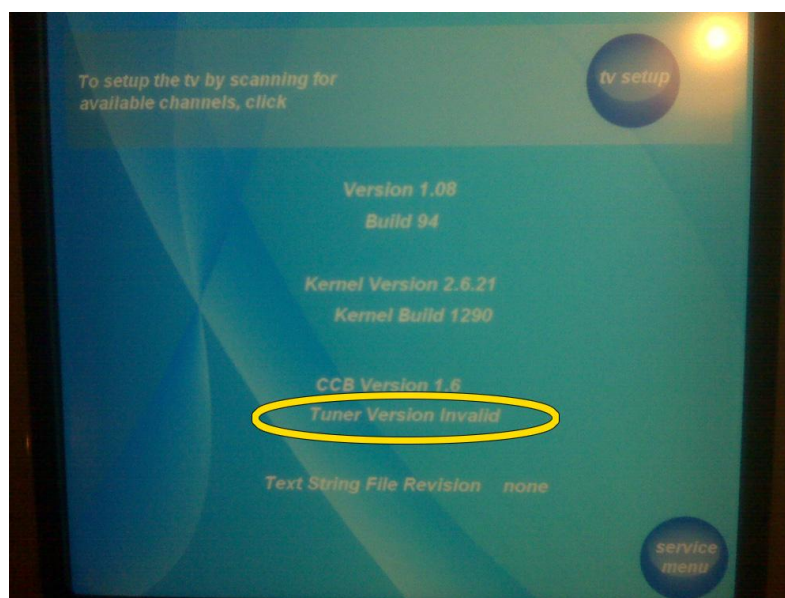

Fig. 11
3) **Symptom:** No channel scan possible / no channel scan option ("Tuner Version Invalid", Fig. 11).
- II. If it says "Tuner Version Invalid" (Fig. 11) replace the tuner card. See document number 637-1349 for replacement instructions.